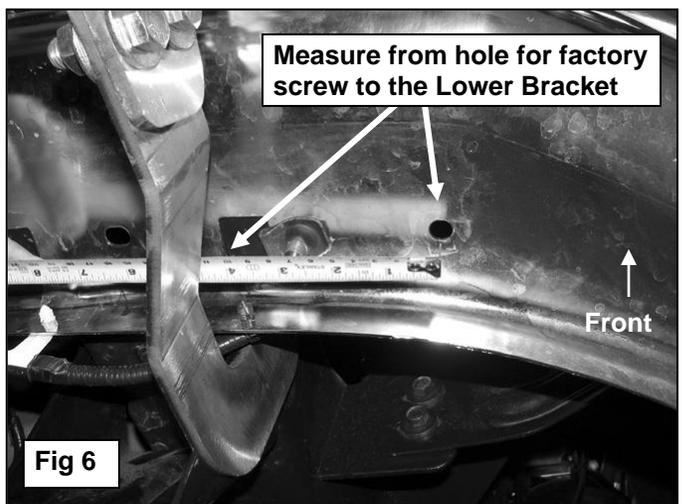

Fig 6
9. Hold the plastic air dam up in position and mark the location of the Lower Mounting Brackets onto the top of the air dam, **(Figure 6 - 9)**. Measure the location of the Mounting Brackets and transfer these measurements onto the back of the air dam, **(Figure 6 & 8)**. Place the air dam back up to the (2) Lower Mounting Brackets to verify location. Check all measurements on the vehicle. Once absolutely satisfied, use a hacksaw blade or utility knife to carefully cut (2) openings in air dam, **(Figure 10)**. Check fit, trim as necessary and reinstall air dam over Lower Support Brackets with factory hardware. Do not cut through the top of bottom edge of the air dam. **NOTE:** It may be necessary to loosen or remove the Lower Mounting Brackets to reinstall the air dam. Reinstall the license plate and bracket.